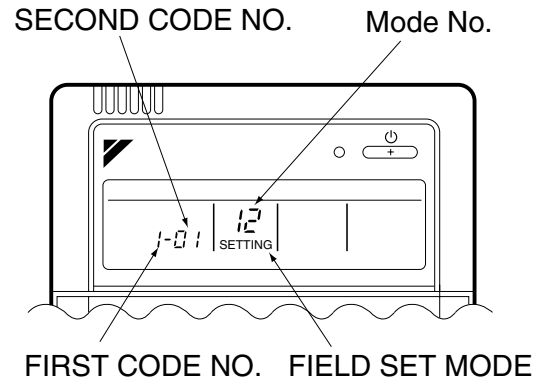

Fig. 31
(3) How to select FORCED OFF and ON/OFF OPERATION
- When in the field set mode, select mode No. 12, then set the first code (switch) No. to "1". Then set second code (position) No. to "01" for FORCED OFF and "02" for ON/OFF OPERATION. (FORCED OFF at factory set) **(Refer to Fig. 31)**